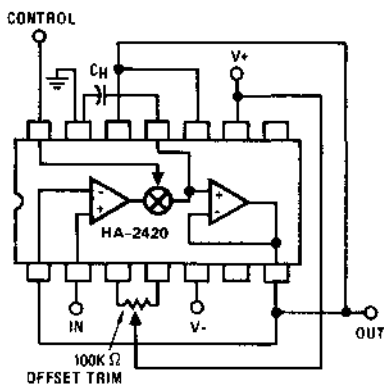

Figure 1
- NOTES: 1) Figure 1 shows a typical unity gain circuit, with offset zeroing. All of the other normal op amp feedback configurations may be used with the HA-2420/2425. The input amplifier may be used as a gated amplifier by utilizing Pin 11 as the output. This amplifier has excellent drive capabilities along with exceptionally low switch leakage.